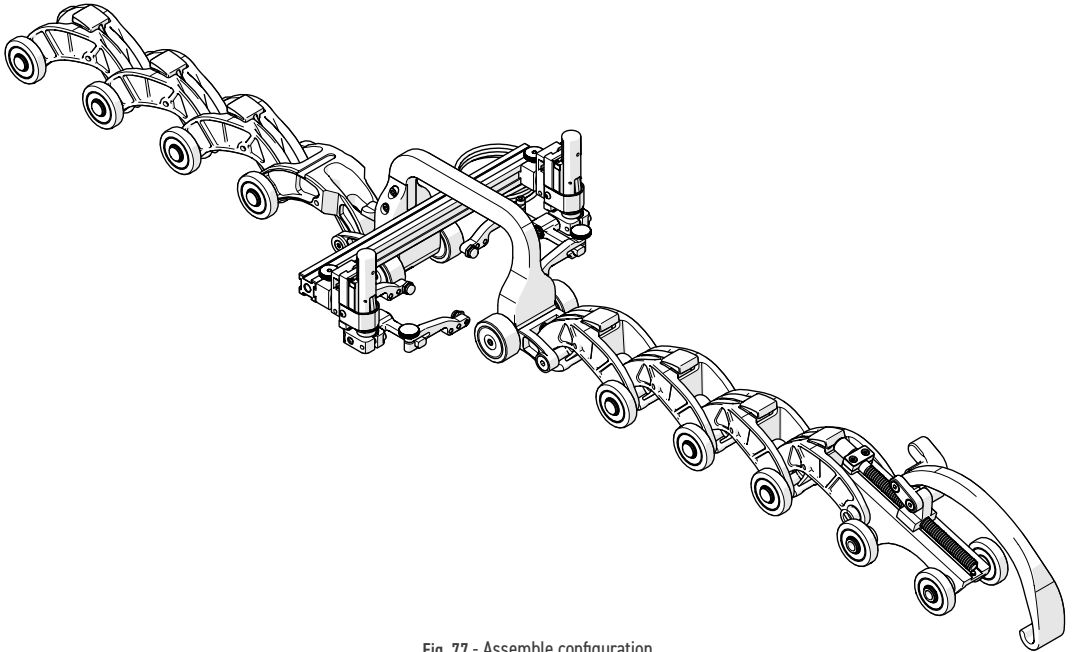

Fig. 77 - Assemble configuration
4. On a flat surface, connect the appropriate number of links (see *Vertical Probe Holder* on page 16) as indicated on the **ROTIX** setup chart. Arrange the link setup so the buckle and catch link will be 180° opposite the scanner body (Fig. 77).